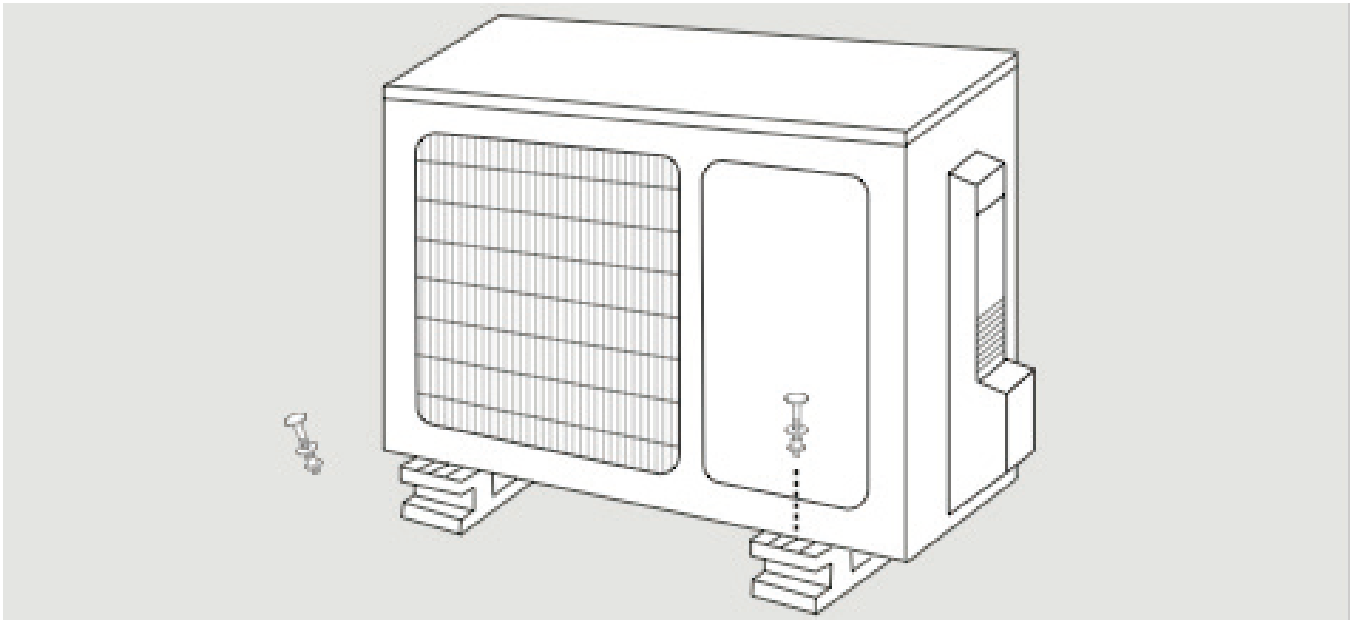

**Fig. 3.13**
2. Use a bracket or wedge to prop up the unit, giving you enough room to connect the refrigerant piping, signal cable, and drain hose. Refer to **Fig. 3.13** for an example.